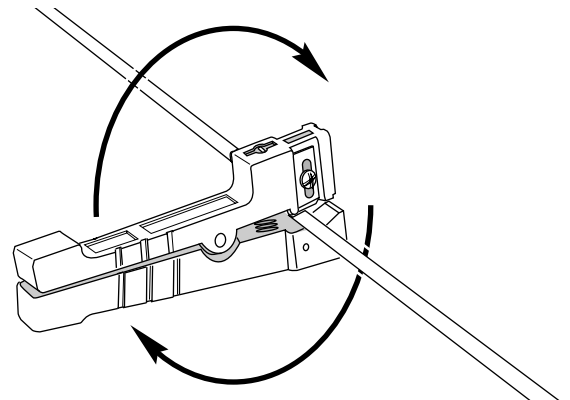

Figure 9
- Make enough turns with the cutter to deeply score the tube (Figure 9). Two turns may be adequate with a sharp blade.